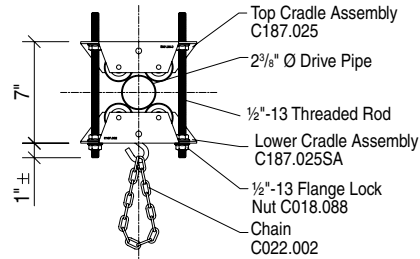
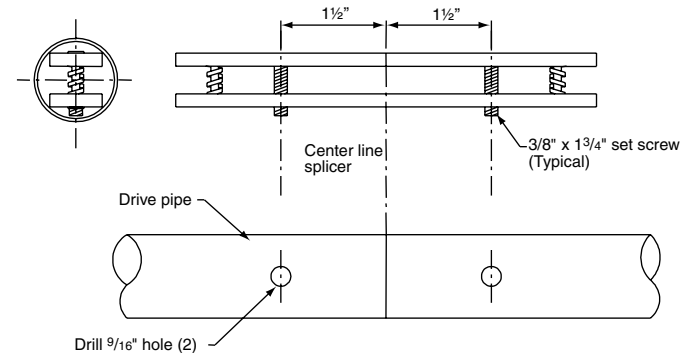
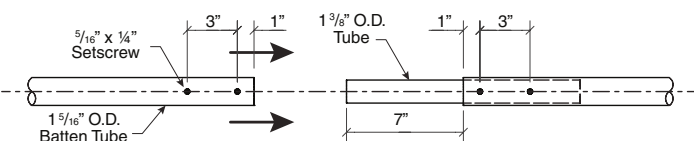

Figure 2
Figure 3
Figure 4
- ⑤ Install double drive pipe support assemblies to Z-Bracket with threaded rod at positions shown on shop drawing (typically adjacent to belts only)(see Fig. 2).
- ⑥ Using project specific drawings, identify the 2-3/8" drive tube sections that attach to the winch. Attach drive tubes to winch output shafts using supplied couplers, key stock and set screws. **ATTENTION Always insert the key stock into the slot on the motor shaft, first then slide the coupler onto the motor shaft. DO NOT INSERT KEY STOCK IN COUPLER FIRST. Tighten coupler set screw securely, making sure it hits the key stock.**
- ⑦ Raise the other drive pipe sections as indicated on project drawings.
- ⑧ Attach pipes together with drive pipe splicers to obtain one long continuous run of drive (see Fig. 3).
- ⑨ Operate the winch to determine that the drive pipe is rolling level. Make adjustments accordingly.
- ⑩ Position lift cables onto drive pipe in preparation of lifting curtain (lift cable not supplied).
- ① Lay the curtain out with the top of the curtain close to the lift cables hanging down from the drive pipe.
- ② Slide 1 5/8" top and bottom batten tubes into pocket one section at a time, assembling as you go. Use 1 3/8" OD x 14" tube to connect section of batten tube. Splice should be installed so equal portions are inside tube that is being connected (see Fig. 3). Rotate batten to align the pre-drilled and tapped holes in batten. Secure with 5/16" x 1/4" set screws. (See Figs. 4 and 5).